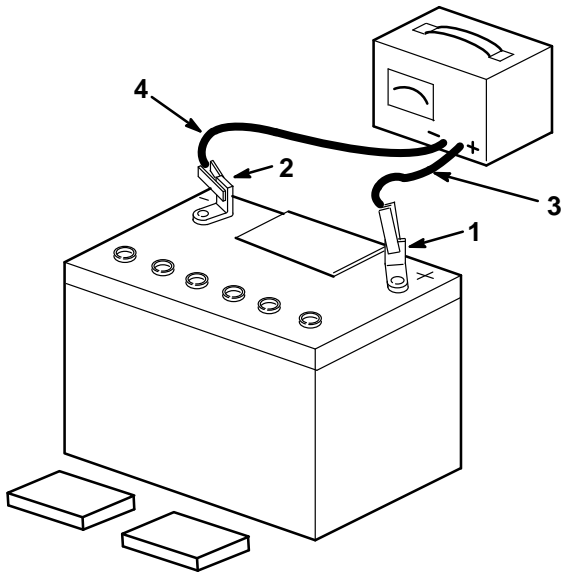

Figure 4
3. Leave the filler caps off and connect a 3–4 amp battery charger to the battery posts (Fig. 4). Charge the battery at a rate of 4 amperes or less for 4 hours (12 volts).
4. When the battery is fully charged, unplug the charger from electrical outlet, then disconnect the charger leads from the battery posts (Fig. 4).